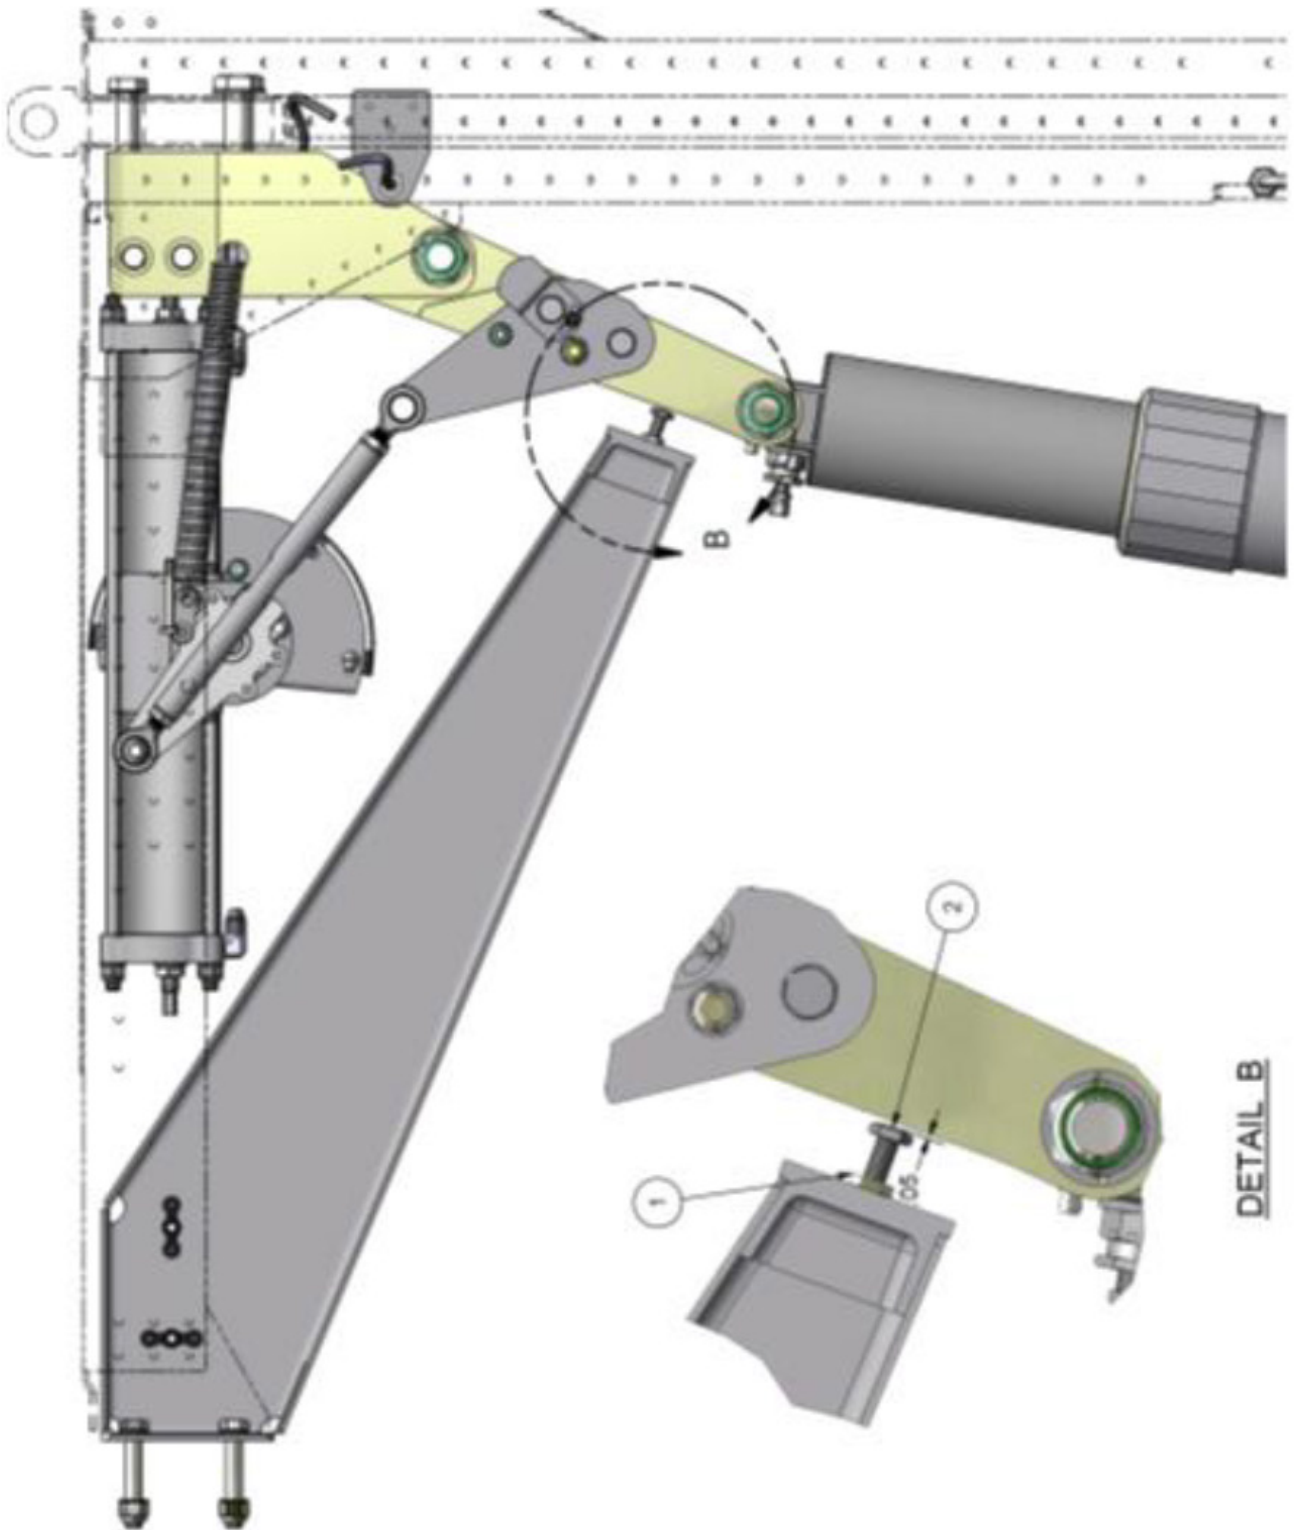

FIGURE 4-6 MAIN GEAR DOWN STOP ADJ.
30. Loosen the (Fig 4-6, Item 1) jam nut on the Main Gear Down Stop Assembly, and screw in the NAS-428 adjustment bolt (Fig 4-6, Item 2). Verify the bolt does not touch the Top Arm when gear is in the down position. When the aircraft is off the jack stands and the weight of the aircraft fully on the wheels, adjust the NAS-428 bolt to lightly make contact with the Main Gear Top Arm when the gear is in the full down position, then turn the bolt one and a half turns in so that the bolt no longer makes contact with the Top Arm. Gap should be about 0.050 inches. Tighten the jam nut.